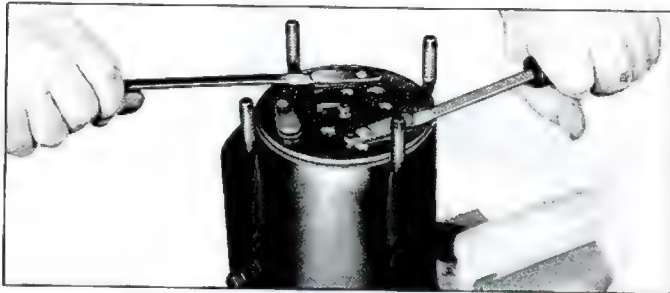

Fig. 43—Removing Rear Discharge Valve Plate
6. Remove the rear head-to-shell "O" ring and discard. With two screw drivers, carefully pry up on the rear discharge valve plate assembly (fig. 43). Check for broken reeds or damaged seats and replace entire assembly if such is found.